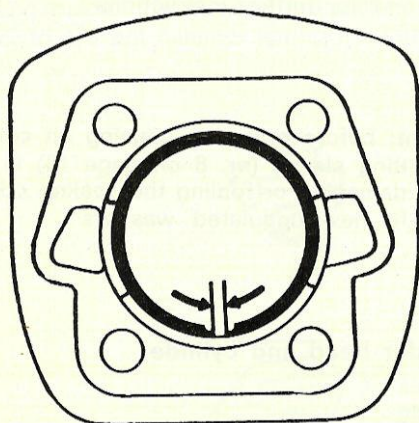

fig. 12
- remove both piston rings (note their respective positions) and check for excessive wear by placing them in the bottom end of the bore (fig. 12). Minimum gap 0.2 mm, maximum gap 0.5 mm.
- it is advised to check the ring gap, even on new rings, as shown in fig. 12